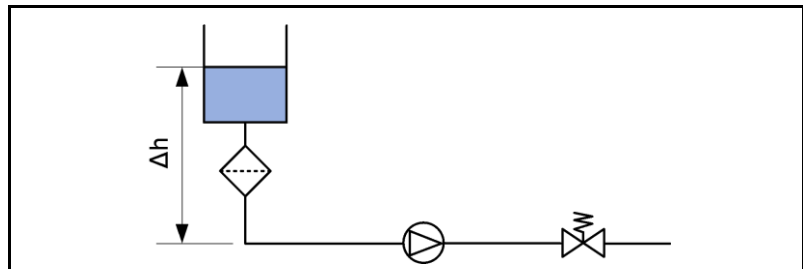

Fig. 70: Pressure test setup
1. Set up the system as shown in Fig. 70.